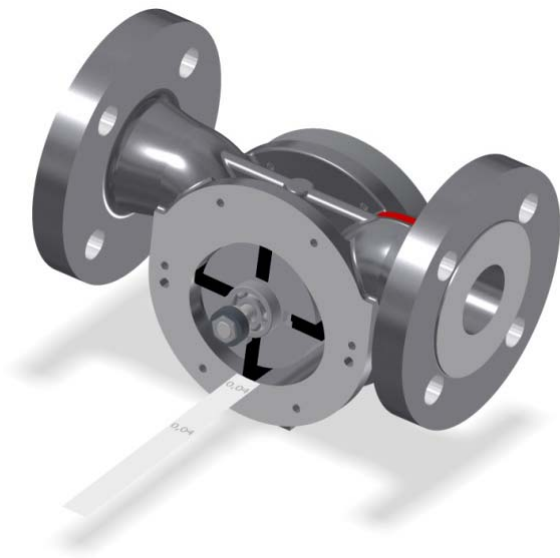

Figure 51 – Measuring the clearance between vanes and housing
- Measure the radial vane clearance with a feeler gauge. The measurement should be taken, as shown in Figure 51.